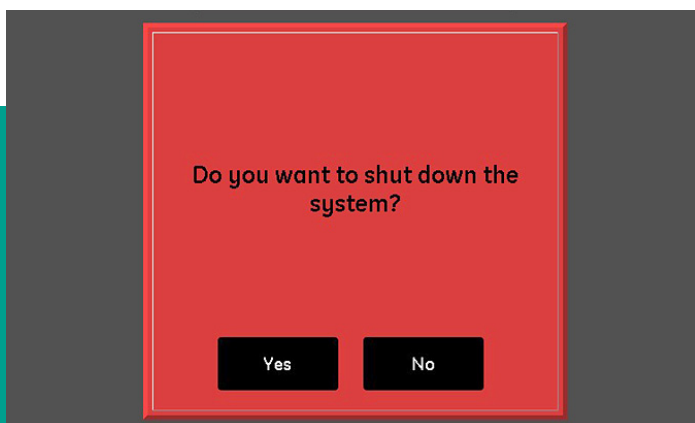

Figure 31: Shut down confirmation screen
3. At the confirmation screen shown in *figure 31* below, tap the **yes** button to shut down the unit or tap the **no** button to cancel the request.
To shut down the moisture.IQ system, tap the **shut down** button. Then, tap either **yes** or **no** at a confirmation screen similar to the one shown in figure 31 on page 36.